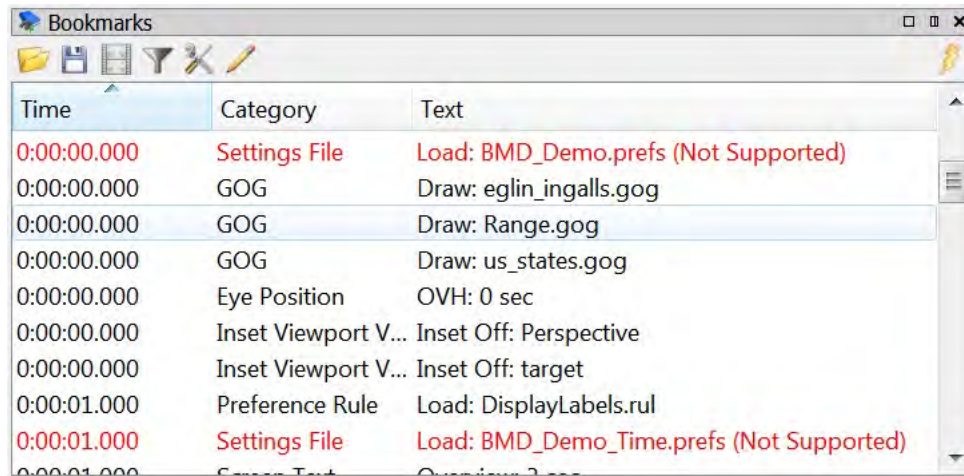

Figure 5.34: Bookmarks Dialog
- Unsupported bookmark events and events with invalid time ranges or other errors are highlighted in red, shown in Figure 5.34.